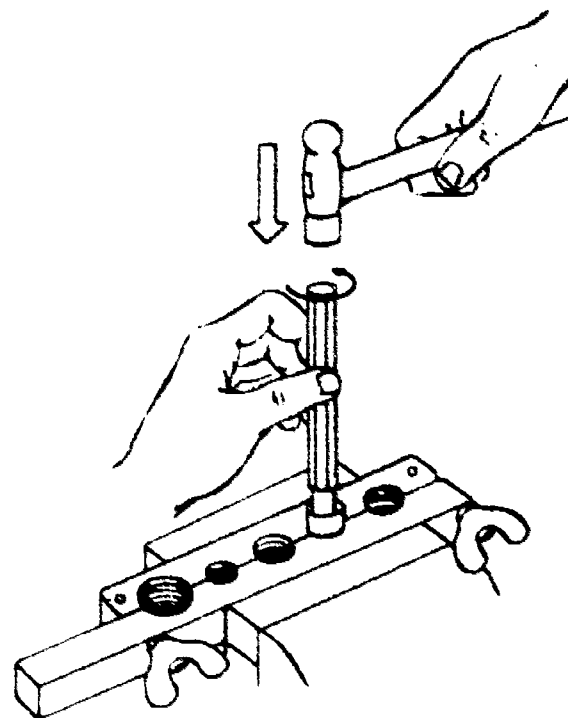

Figure 5
3. Insert the proper size swaging tool in the tubing as illustrated in figure 5.